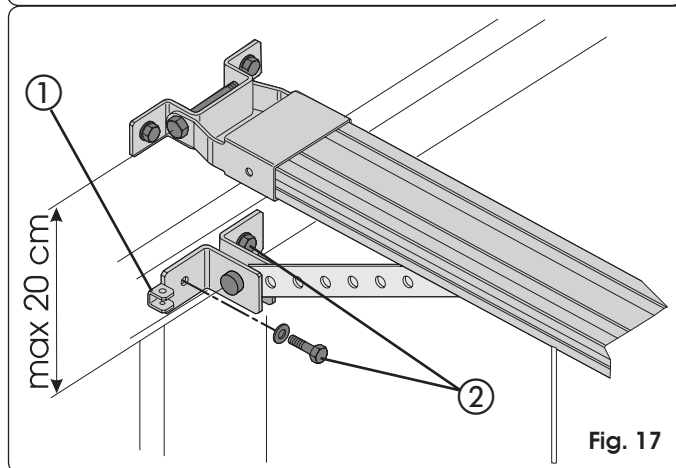

Fig. 17
- Position the fitting on the door so that the through-element of the release cable is facing toward the left side of the door (ref. ① Fig. 17).
- 4) Make sure that the distance between the between-centres of the front fitting and the on-door fitting does not exceed 20 cm (Fig. 17). To ensure correct operation of the automated system, we advise you to avoid arm inclinations of over 30° compared to the sliding guide.
- 5) Mark, drill and secure the fitting to the door, using the screws (ref. ② Fig. 17) **NOT** supplied.